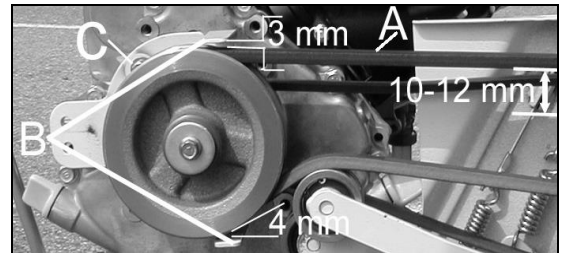

Figure 22
- Push the belt with a finger on (A, Figure 22) the belt must move from 10 to 12 mm. If the belt does not move accordingly, perform "tension wire" again.